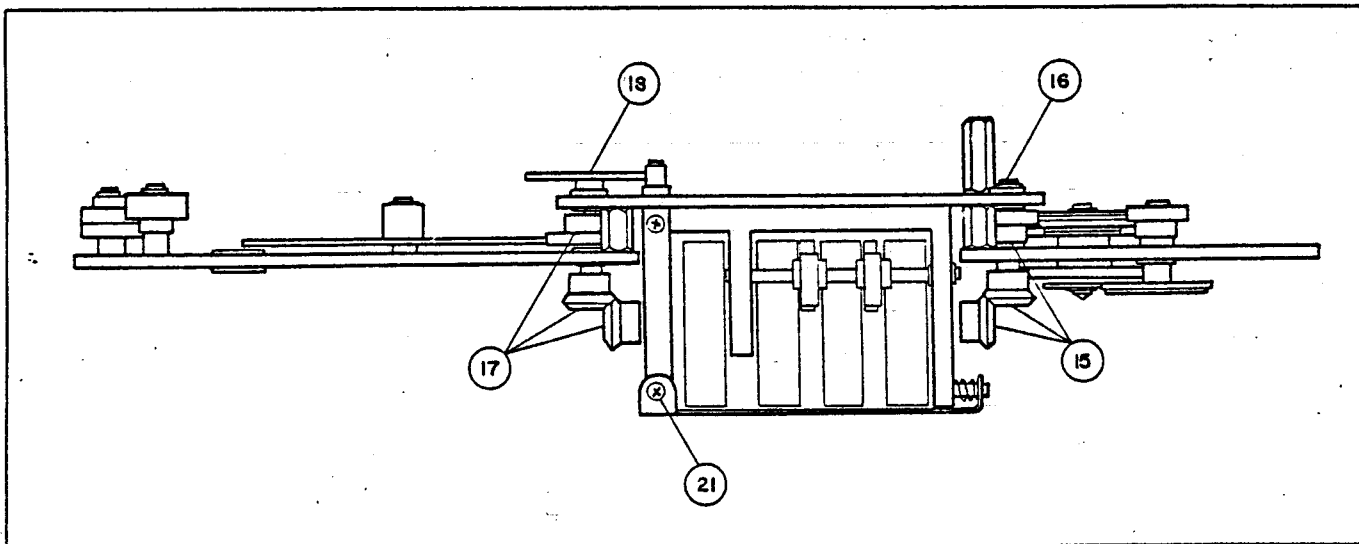

Figure 3-7. R-F and I-F Tuner Assembly, Front Plate, Top View
- a. Loosen six setscrews (item 15, figure 3-7).
- b. Remove shaft (item 16, figure 3-7).
- c. Loosen six setscrews (item 17, figure 3-7).
- d. Remove shaft of cam (item 18, figure 3-7 and 3-9).
3-17. REPLACEMENT OF MEGACYCLES FREQUENCY INDICATOR. Refer to figures 3-7, 3-8, and 3-9.